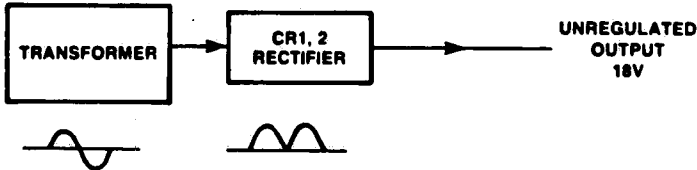

Figure 3-20. PRINTCON 18-VOLT POWER SUPPLY.
5. The +18 VDC unregulated power supply operates as follows: voltage from the full wave rectifier (CR1 and CR2) is filtered by C1. This filter circuit provides unregulated +18 VDC, through fuse F2, and is the supply for the +12 VDC regulated output, the +12 VDC power output, and the +5 VDC regulating amplifier U1 (Figure 3-20).